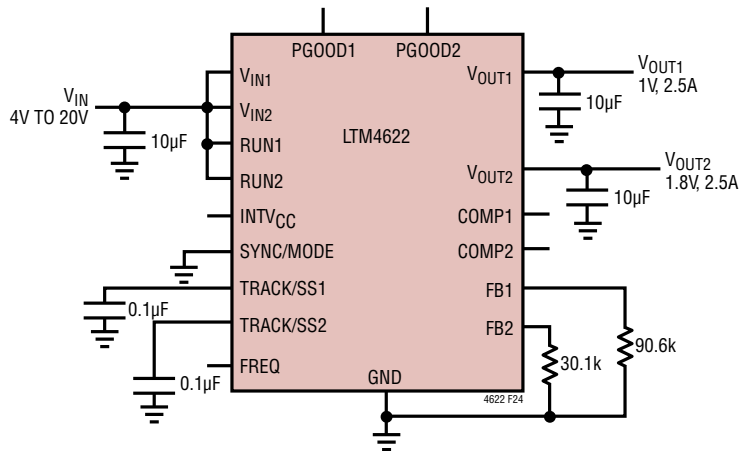

Figure 24. $4V_{IN}$ to $20V_{IN}$, 1V and 1.8V Output at 2.5A Design
**Table 7. Output Voltage Response for Each Regulator Channel vs Component Matrix (Refer to Figure 24)